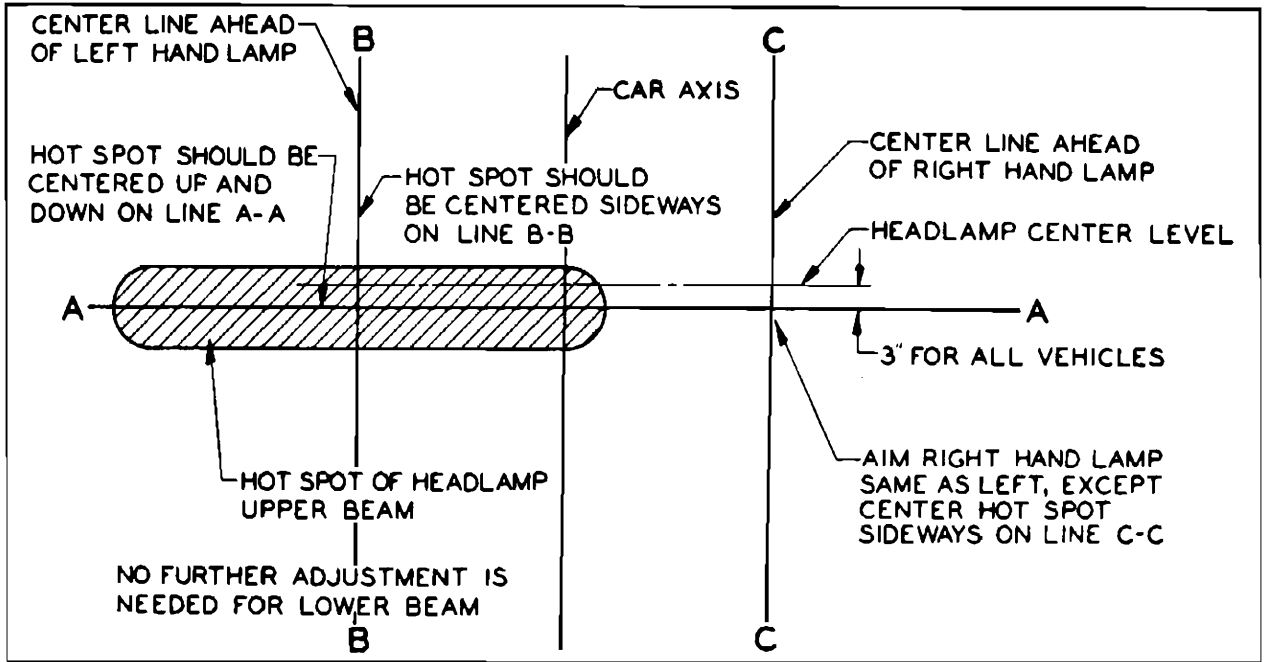
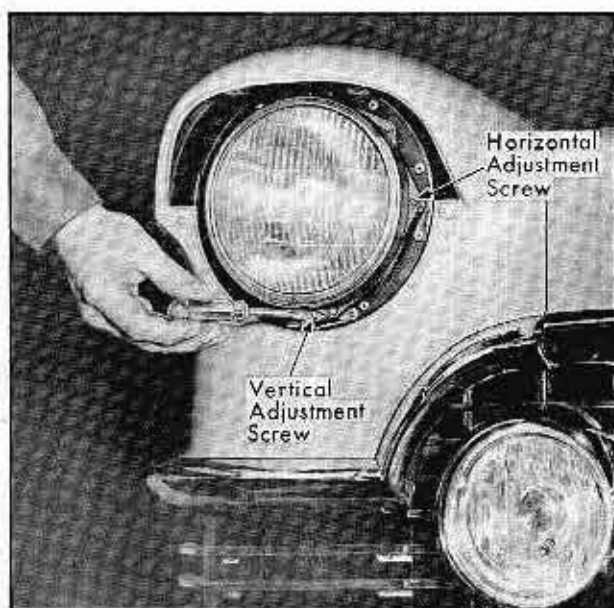

Fig. 15-3 Headlamp Aiming Diagram
Fig. 15-5 Sealed Beam Aiming Adjustments
If a headlamp aiming screen is to be used in the service station, it should be marked according to the following dimensions (refer also to Fig. 15-3).
8. Cover one lamp and then adjust beam from other lamp both up and down, and sideways, Fig. 15-5, as required until center of zone of highest intensity falls on the intersection of the horizontal line (3 inches below the headlamp center) and the vertical line directly ahead of lamp. Fig. 15-3.